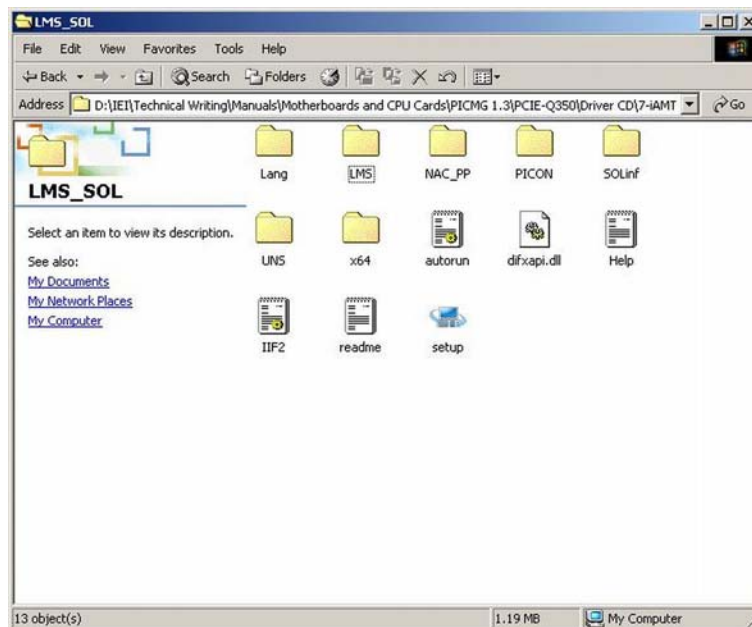

Figure 7-56: IAMT Driver Installation Icon
Step 21: Click on the LMS_SOL directory icon. The window in **Figure 7-56** appears.
Step 22: Double click the setup icon in **Figure 7-56**.